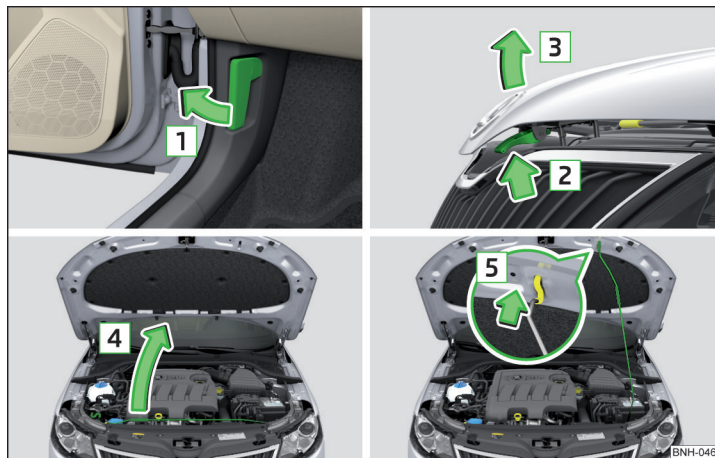

Fig. 117 Opening the bonnet
- Pull the release lever underneath the dash panel in the direction of the arrow **1** » Fig. 117.
Never open the bonnet by the locking lever » Fig. 117.